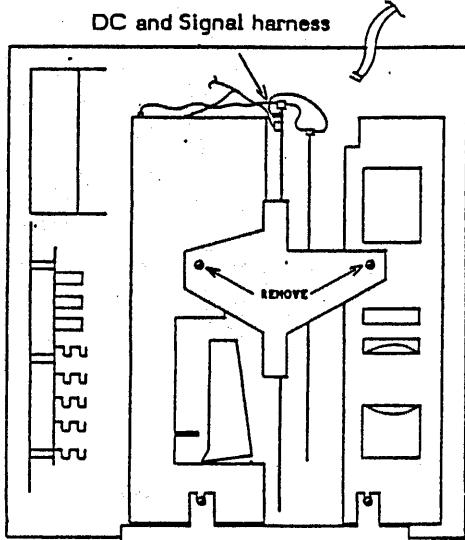

Fig. 3-25 FIXED DRIVE ASSEMBLY
2. Remove (2) screws supporting Controller PWA support bracket to drives. (fig. 3-25)
2. Fasten Controller PWA to support bracket with (5) screws.
3. Lower PWA and bracket into the slot between floppy drive and fixed drive.(fig.3-25)
4. Attach DC and signal harnesses to PWA.(fig.3-25)
5. Secure bracket with (2) screws to drives.